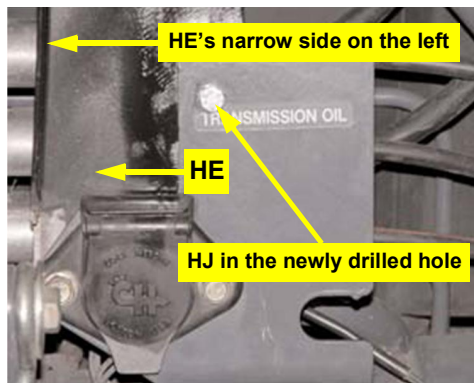

Figure 2b: Installed steering block bracket
- b. Using the wire connector bolts, install the steering block mounting bracket **HE**, with its narrow side on the left, behind the wiring connector's mounting bracket (Figure 2b).
- c. In the location shown, drill a 3/8" hole through the wiring connector mounting plate and the steering block mounting bracket just installed. Using hardware **HJ**, bolt the two brackets together (Figure 2b).